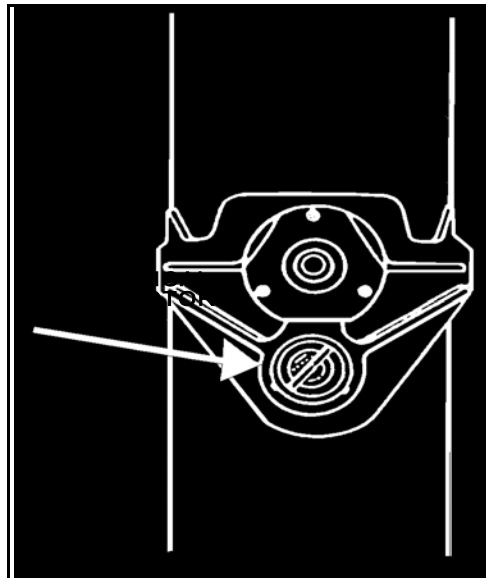

Figure 5. Electrical connector cover.
8. Remove the electrical connector cover from the TOW electrical connector and save it until the missiles are fired (Figure 5).